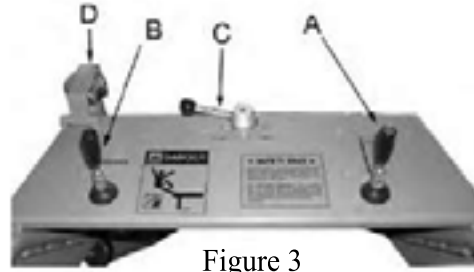

Figure 3
6. **Starting the machine (See Figure 3)**
- c. Before anything else you must turn the speed control lever (C) to the slowest position.
**Caution:** Never start the tractor or activate the wheel control lever (A) before first turning the speed control lever (C) to the slowest position possible.